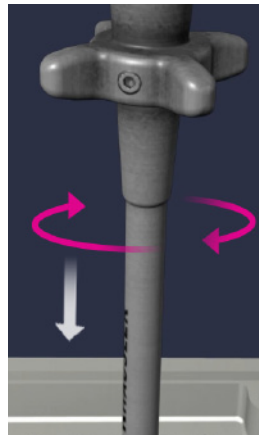

Figure 44
- Rotate the screwdriver to a perpendicular position (straight up) and rotate the handle while pushing down lightly to engage the hex in the screw (fig. 44).